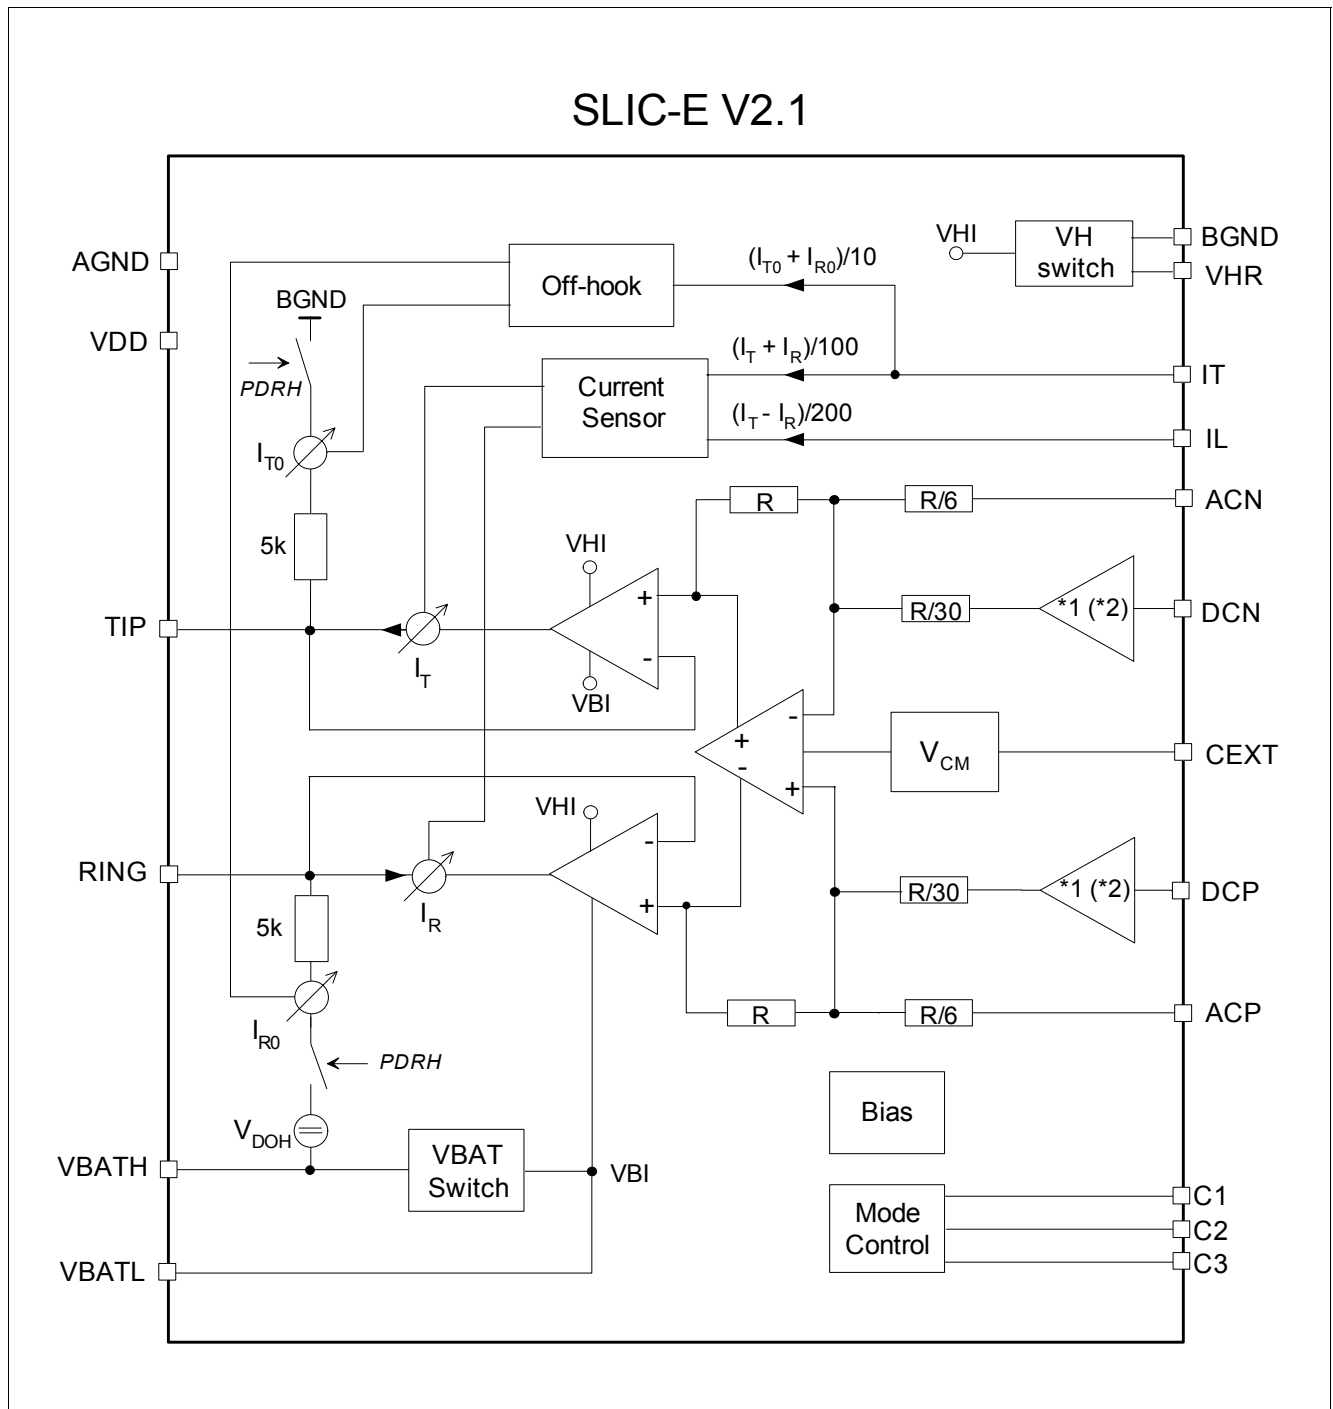

Figure 6 Block Diagram
A functional block diagram is shown in Figure 6.
Power consumption is reduced to a minimum by switching completely off all voice transmission functions. To allow off-hook detection, PDRH provides a connection of 5 kΩ each from TIP to BGND and RING to VBATH, respectively, while the output buffers show high impedance (see Figure 6). The current through these resistors is sensed, scaled by 1/5 and transferred to the IT pin for off-hook supervision.
- 3) Due to the changed battery switch concept (see Figure 6), the VBATL series diode must not be shared between different channels; one diode per channel is mandatory (also for applications with TSLIC).